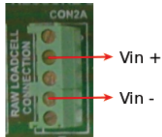

Figure: 3
- 3 Connect power adapter to the weighing machine. Connect unamplified differential output of load cell to the designed instrumentation amplifier. Refer to Fig 3.
- 3 Connect unamplified differential output of load cell to the designed instrumentation amplifier. Refer to Fig 3.